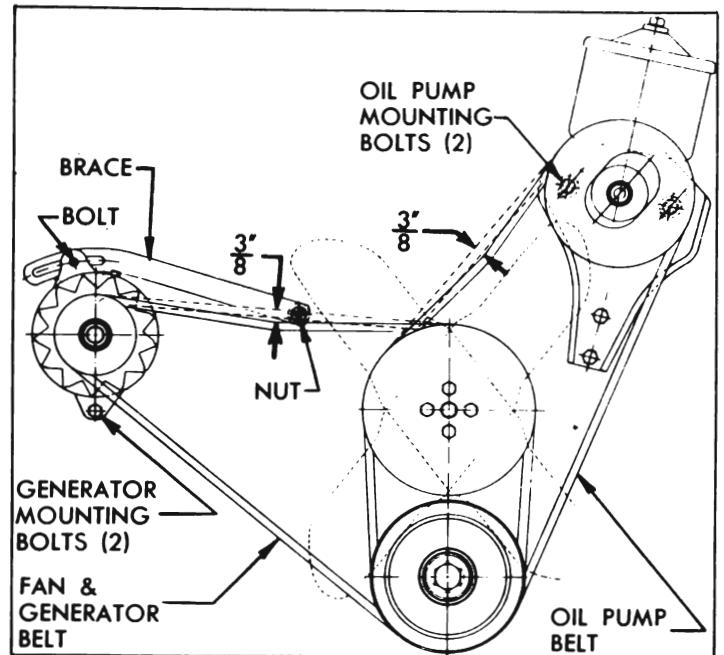

Figure 10-10—Fan Belt Adjustment
5. Check fan belt for condition and proper tension (fig. 10-10), and make certain that all generator mounting bracket and brace bolts are tight. A loose fan belt will permit belt slippage, resulting in rapid belt wear and low or erratic generator output. An excessively tight belt will cause rapid belt wear and rapid wear of generator and water pump bearings. **NOTE:** *If belt requires adjustment, first loosen belt so that generator pulley is free, then check pulley for tightness and check generator bearings for freeness of rotation and excessive side play. Tight or excessively worn bearings should be cleaned or replaced.*
4. If 30 amperes cannot be obtained at approximately 1100 RPM of engine check fan belt for proper tension (fig. 10-10). If fan belt is not slipping the generator does not have proper output. Remove generator for bench test (par. 10-24) and make necessary corrections before attempting any adjustment of generator regulator.